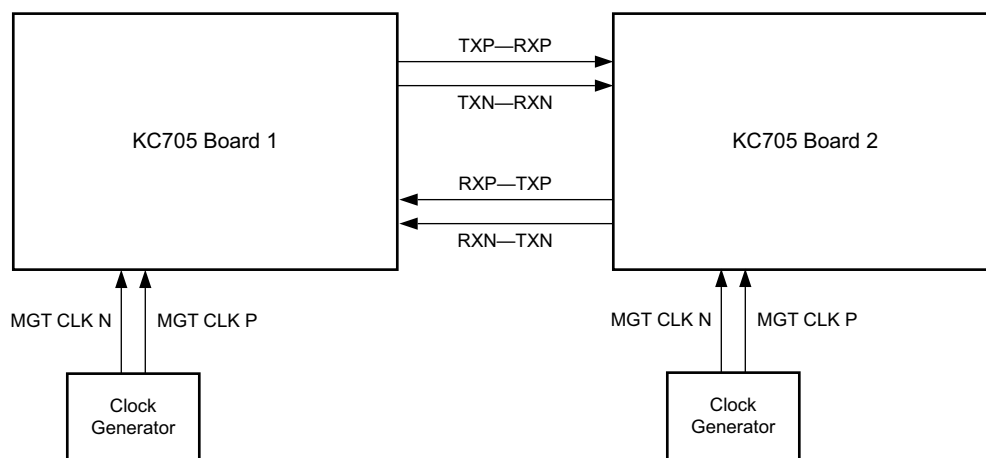

Figure 1: Single Lane Reference Design
1. A single-lane configuration using two platforms (see Figure 1).